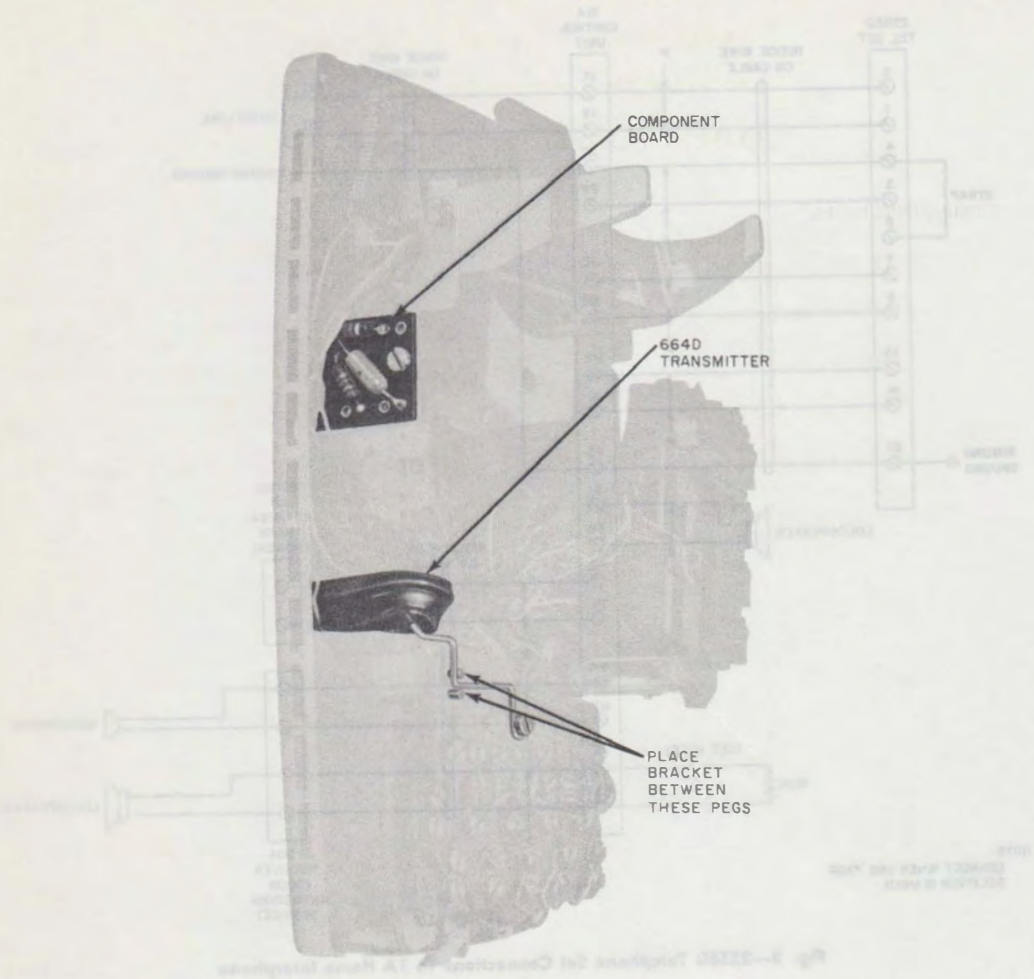

Fig. 3—2558D Telephone Set 1A Home Interphone Components Installed
- (c) Maintenance of the home interphone components of these sets (Fig. 3) consists only of replacement of defective components.